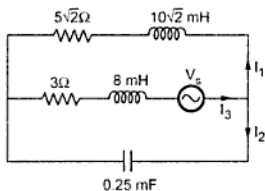

Fig. 5.100
29. In the network shown in the Fig. 5.100, source frequency is 500 rad/sec and current I_2 is $1.25 \angle 60^\circ$ A.